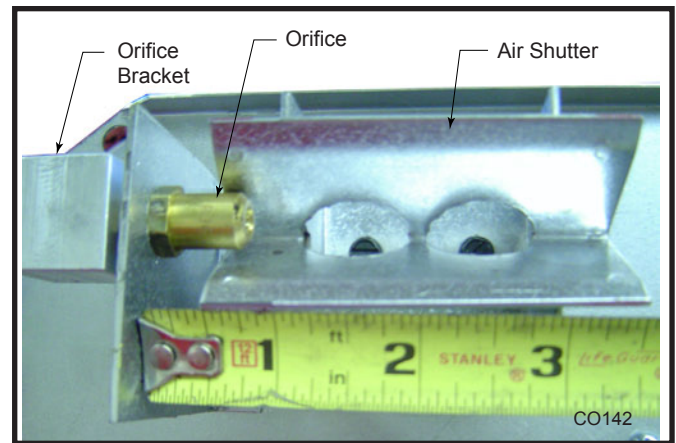

**Fig. 81** Tilt ember bed slightly to correctly place on venturi and air shutter.
2. Carefully remove ember bed by tilting the right side up and lifting out toward the right side of the unit. (Fig. 81)
1. Replace burner making sure venturi on bottom of ember bed aligns with orifice and is seated properly on air shutter assembly. (Fig. 81) Make sure burner is slid into place at a slight angle and opposite to how it was removed. When burner is slid into place, the three (3) pem studs should slide down through clearance holes into the bottom of the control panel.